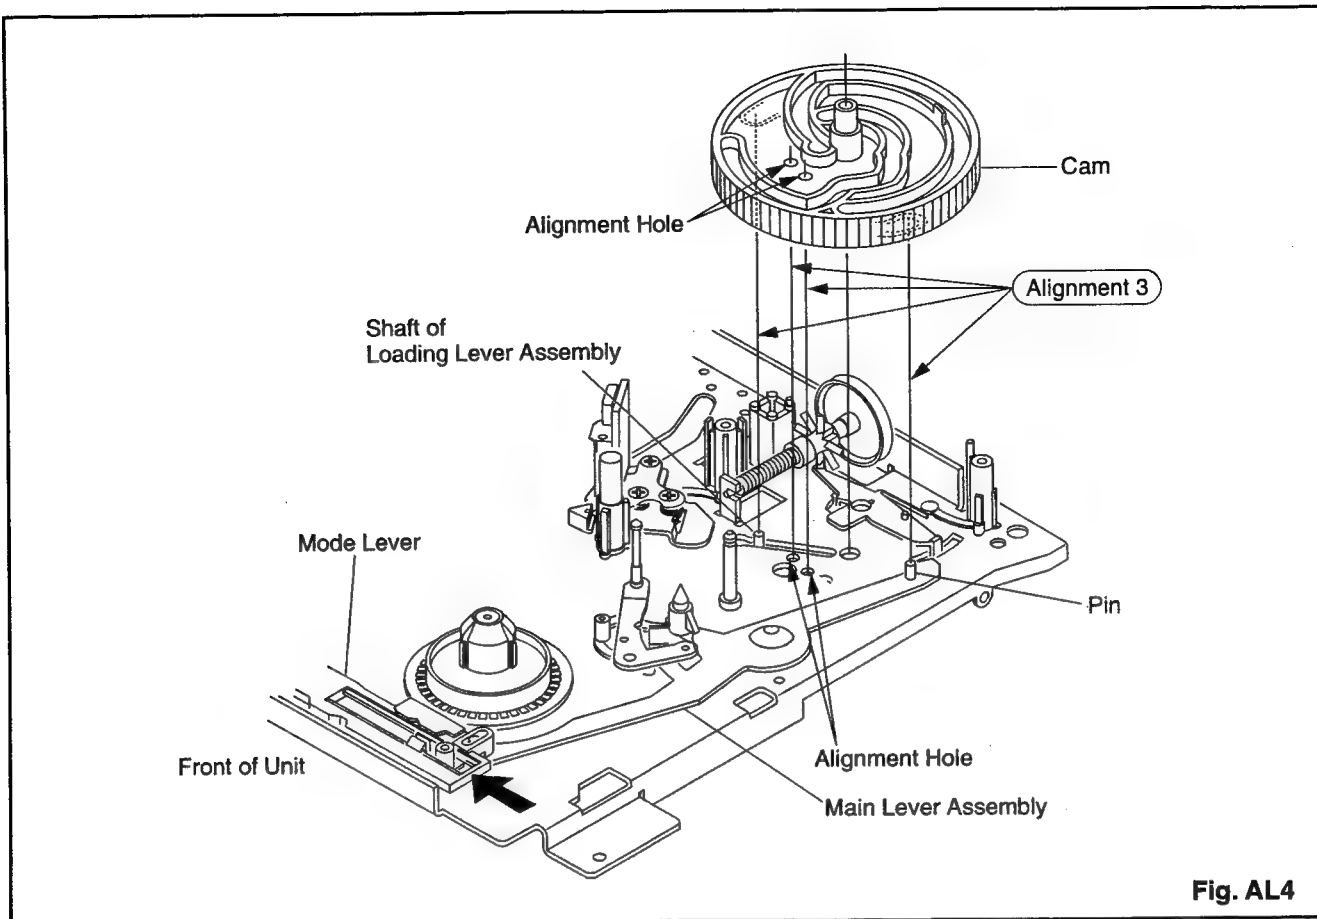

Fig. AL4
1. Make sure that the mechanism is in Eject mode so that the shaft of Loading Lever Assembly is in the position shown in Fig. AL4.
4. After installing the Cam, make sure that the alignment hole of the Cam is still aligned with the base hole and that the pin on the Main Lever Assembly and the shaft of the Loading Lever Assembly are inserted into the proper grooves of the lower Cam as specified in Fig. AL4.